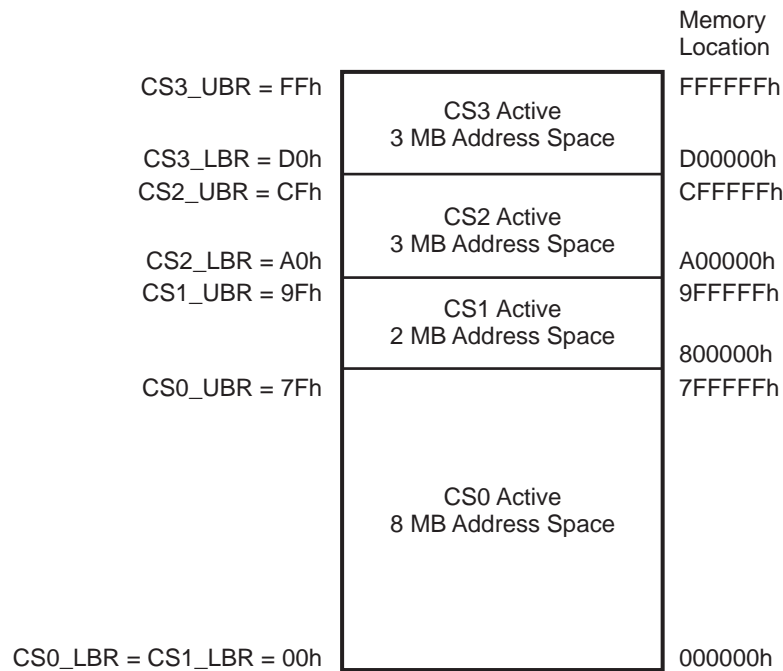

Figure 4. Memory Chip Select Example
The use of Memory Chip Selects is illustrated in Figure 4. The associated control register values are listed in Table 13. In this example, all 4 Chip Selects are enabled and configured for memory addresses. Also, CS1 overlaps with CS0. As CS0 has the higher priority than CS1, CS1 is not active for much of its defined address space.
**Table 13. Register Values for Memory Chip Select Example in Figure 4**